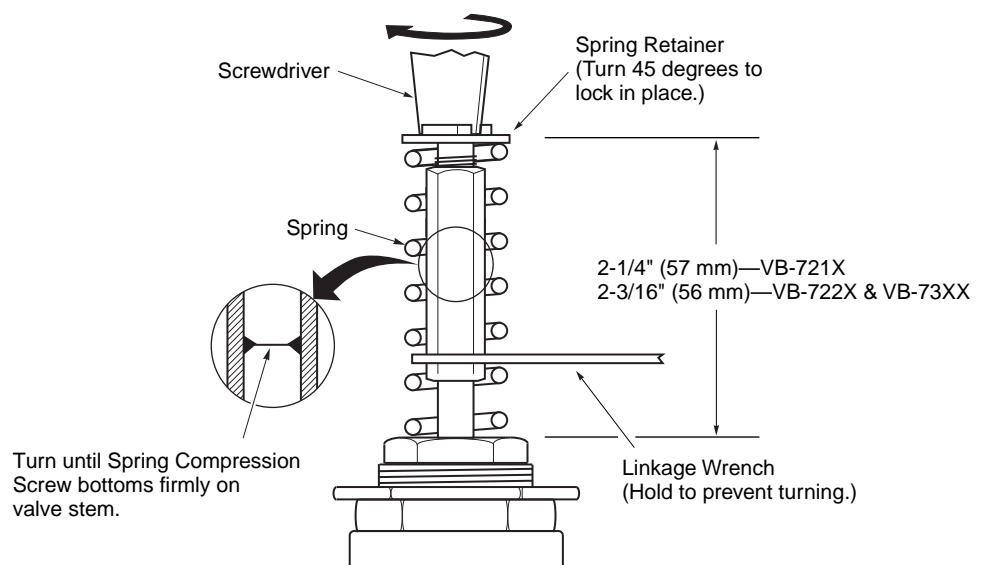

Figure-2 Completing Linkage Kit Assembly to Valve.
8. Hold the wrench from turning and tighten the spring compression screw. To establish proper linkage height, run the spring compression screw down until the screw end bottoms firmly on the stem top (Figure-2).
9. Confirm the stem height setting (Figure-2):